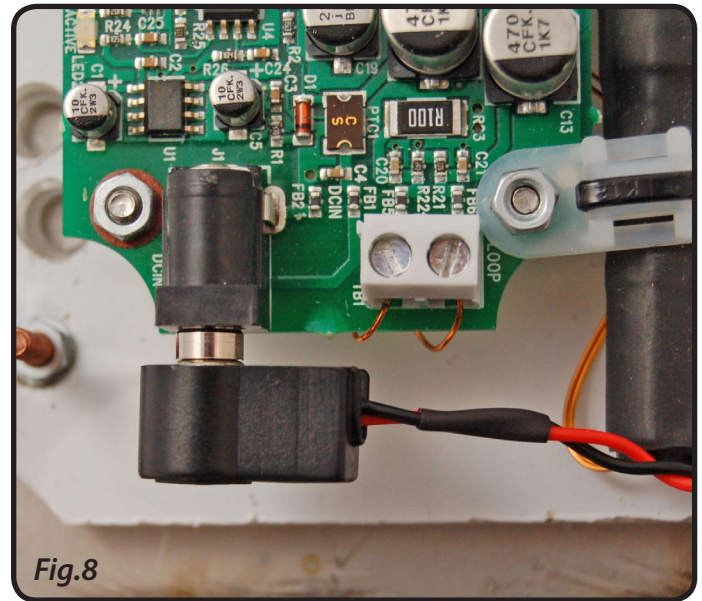

Fig.8
13. Next take the 12Vdc power cable and plug it into the power plug-in terminal at the bottom of the Induction Loop, as shown in Fig.8.